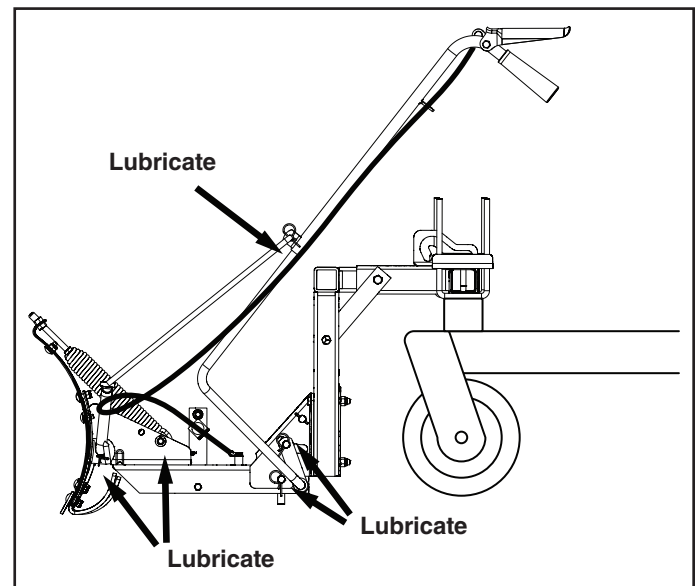

FIGURE 20
- **Lubricate Blade (FIGURE 20):** Lubricate all Pivot points to help maintain proper operation of Blade. Apply a light coating of oil to the straight upper portion of the Lift Handle Rod.